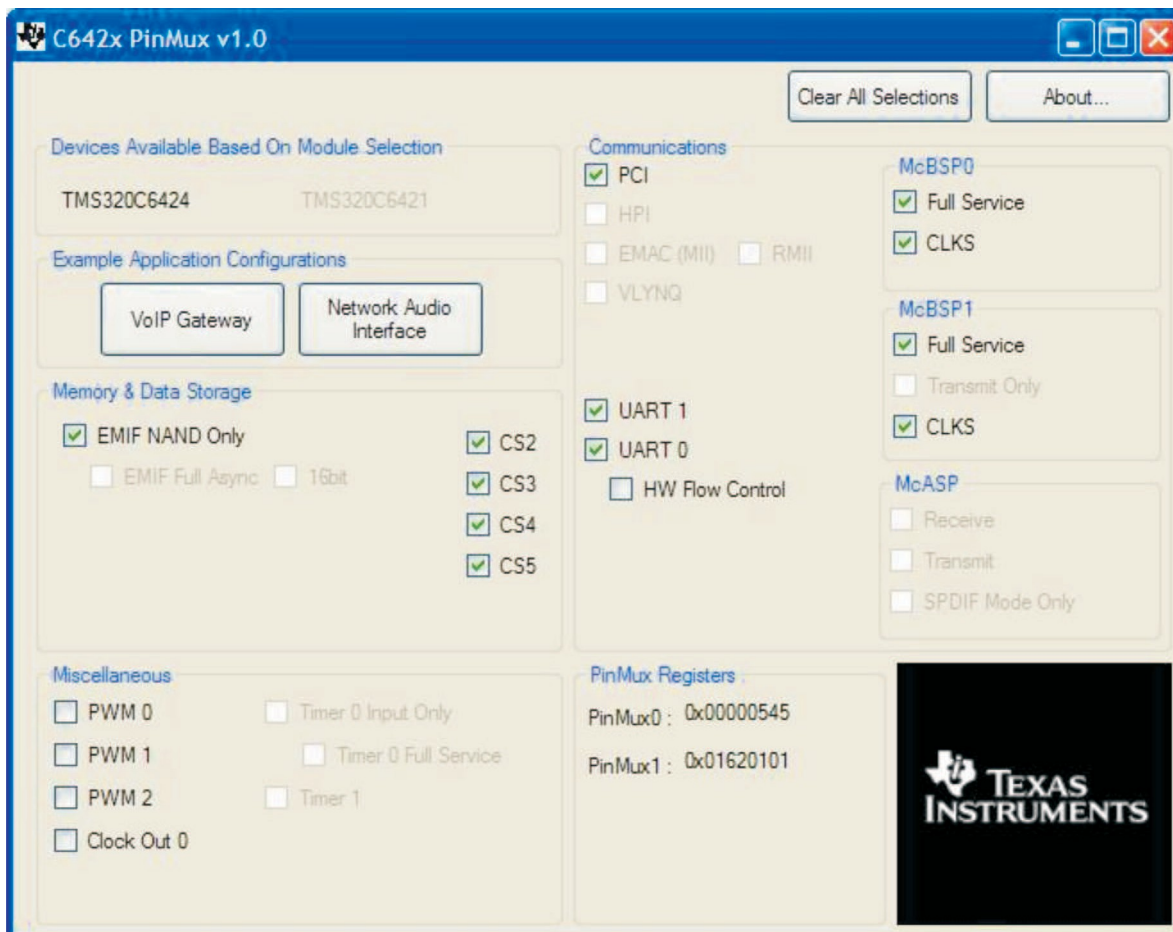

Figure 5. Selecting Memory and Data Storage
Now that the communications interfaces are selected you can select the memory settings. In this case, since PCI has been chosen, the memory interface is limited to NAND flash only operation. Here you can also select all of the available chip select (CS) lines as they are not multiplexed with the peripherals that are already in use as can be seen in Figure 5.